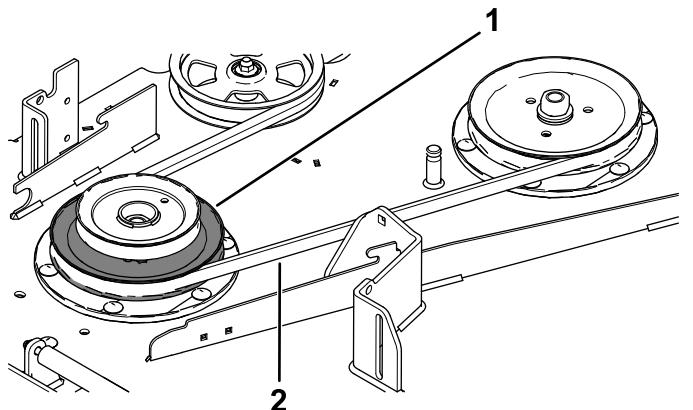

Figure 21
11. Install the mower belt around the lower pulley of the double pulley (Figure 21).